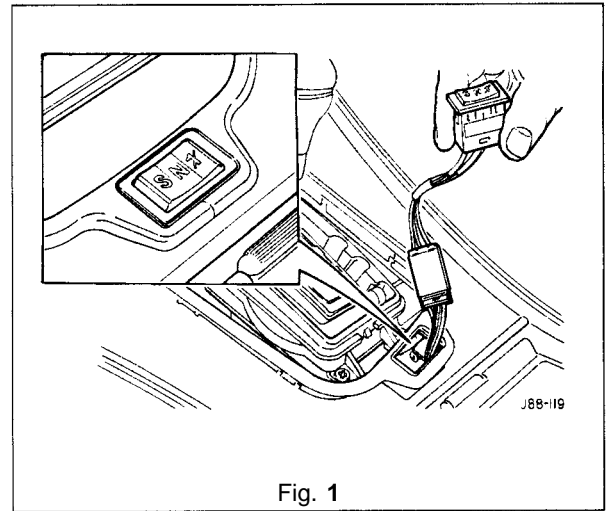

Fig. 1
- Remove the console ashtray, see subsection 13.3.28 and Fig 1.